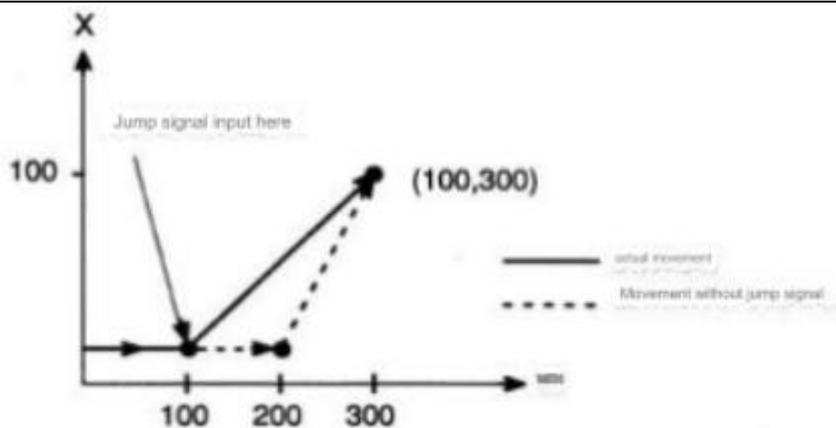

Figure 3-15
3. The next program segment of G31 is the absolute coordinate programming of 2 axes, see Figure 3-15